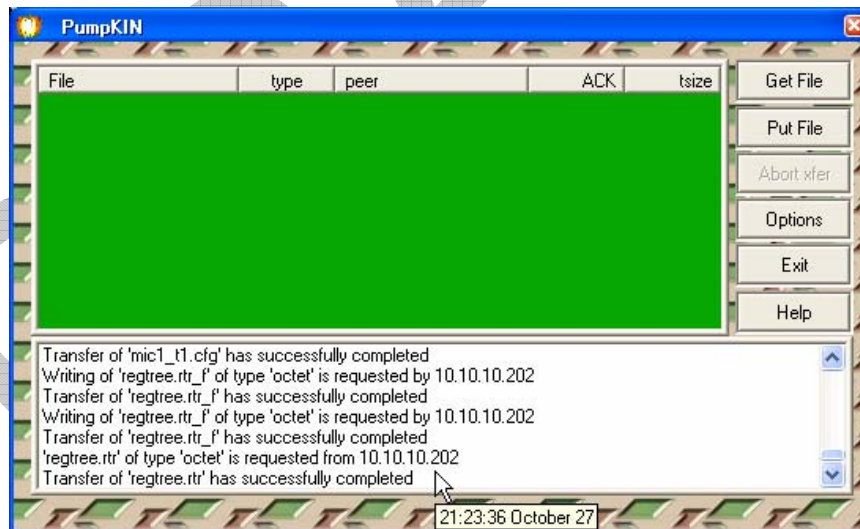

Figure 21: TFTP Download Message
4. Monitor the TFTP application window (see Figure 21) to verify that download to the WMTS has occurred.